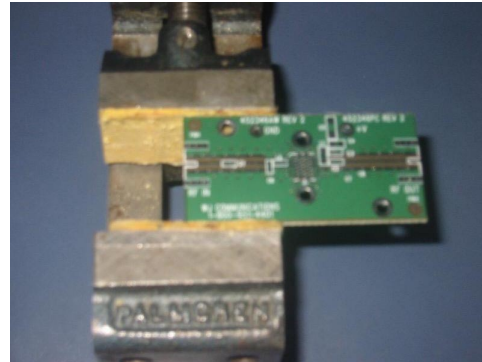

Figure 2. PCB shown mounted to a clamp.
2. The next step is to securely mount the PCB to a vice, clamp, or other rigid structure. It is best to only clamp a portion of the PCB in a manner similar to Figure 2, so that the user can access both the top and bottom sides simultaneously with a soldering iron.